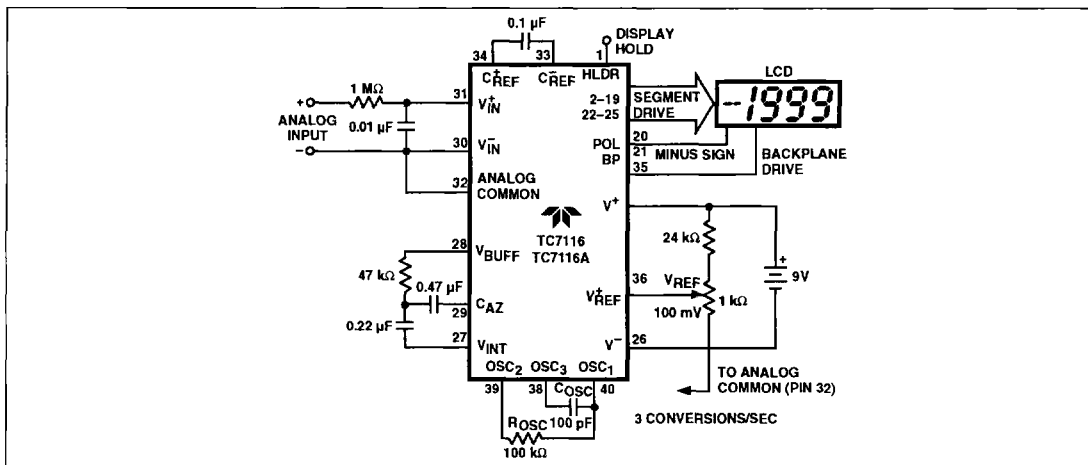
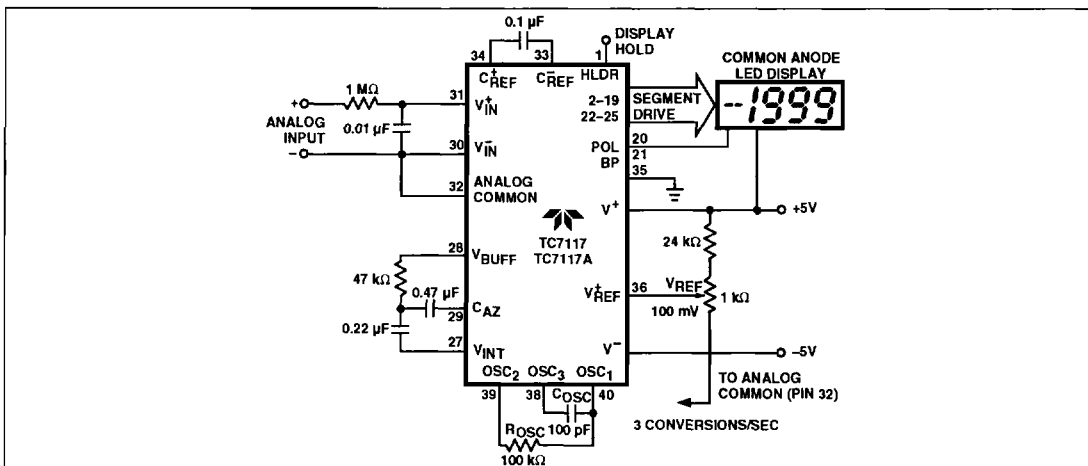

Figure 1 Typical TC7116/TC7116A Operating Circuit
Figure 2 Typical TC7117/TC7117A Operating Circuit
- Unless otherwise noted, specifications apply at T_A = +25°C, f_{LOCK} = 48 kHz. TC7116/TC7116A are tested in the circuit of Figure 1. TC7117/TC7117A are tested in the circuit of Figure 2.